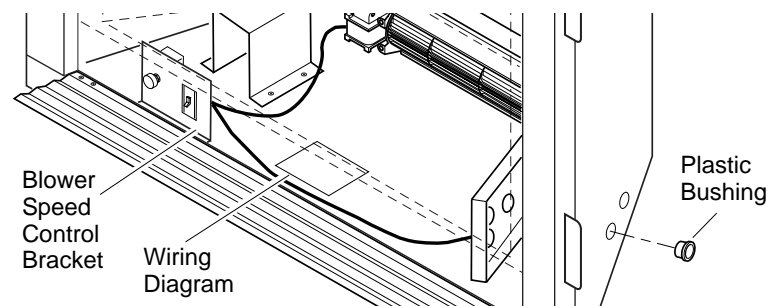

Figure 34 - Installing Plastic Bushing and Wiring Diagram Sticker
- a. **If your fireplace system is installed as a freestanding unit with an accessory mantel**, determine whether the power cord will exit the left side or the right side of the firebox. Install one plastic bushing provided into the 1 1/2" hole in the outer casing through which the power cord will exit. Install the second plastic bushing provided into the floor support bracket if exiting through the right side (see Figure 34). Route power cord through (both) plastic bushing(s) and plug the power cord into a properly grounded 3-prong wall receptacle near the firebox.
10. Peel off the backing paper and stick the supplied wiring diagram decal on the firebox bottom approximately 3" to the right of the blower speed control bracket (Figure 34).